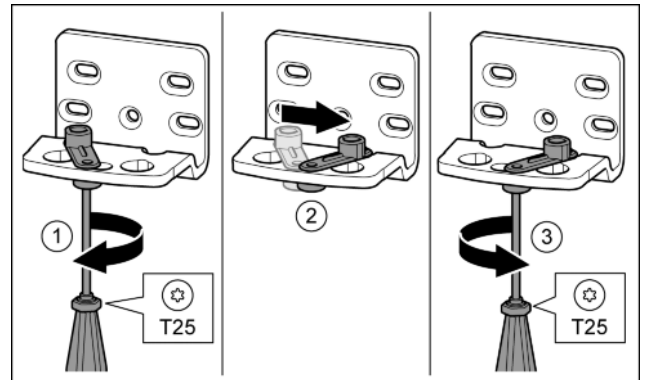

Fig. 16
- ▶ Loosen the screw using a T25 screwdriver. Fig. 16 (1)
- ▶ Lift the door closure aid and turn it 90° to the right in the hole. Fig. 16 (2)
- ▶ Tighten the screw using a T25 screwdriver. Fig. 16 (3)